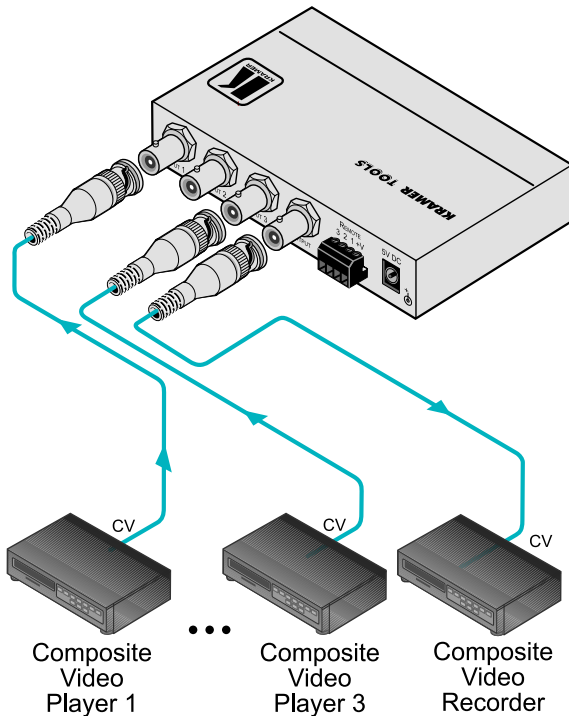

Figure 2: Connecting the VS-33Vx1 3x1 Video Switcher
You can use the **VS-33Vx1** to switch any one of three sources to a single output. To connect the **VS-33Vx1**, as illustrated in the example in Figure 2, do the following:
3. Connect the 5V DC power adapter to the power socket and connect the adapter to the mains electricity (not shown in Figure 2).